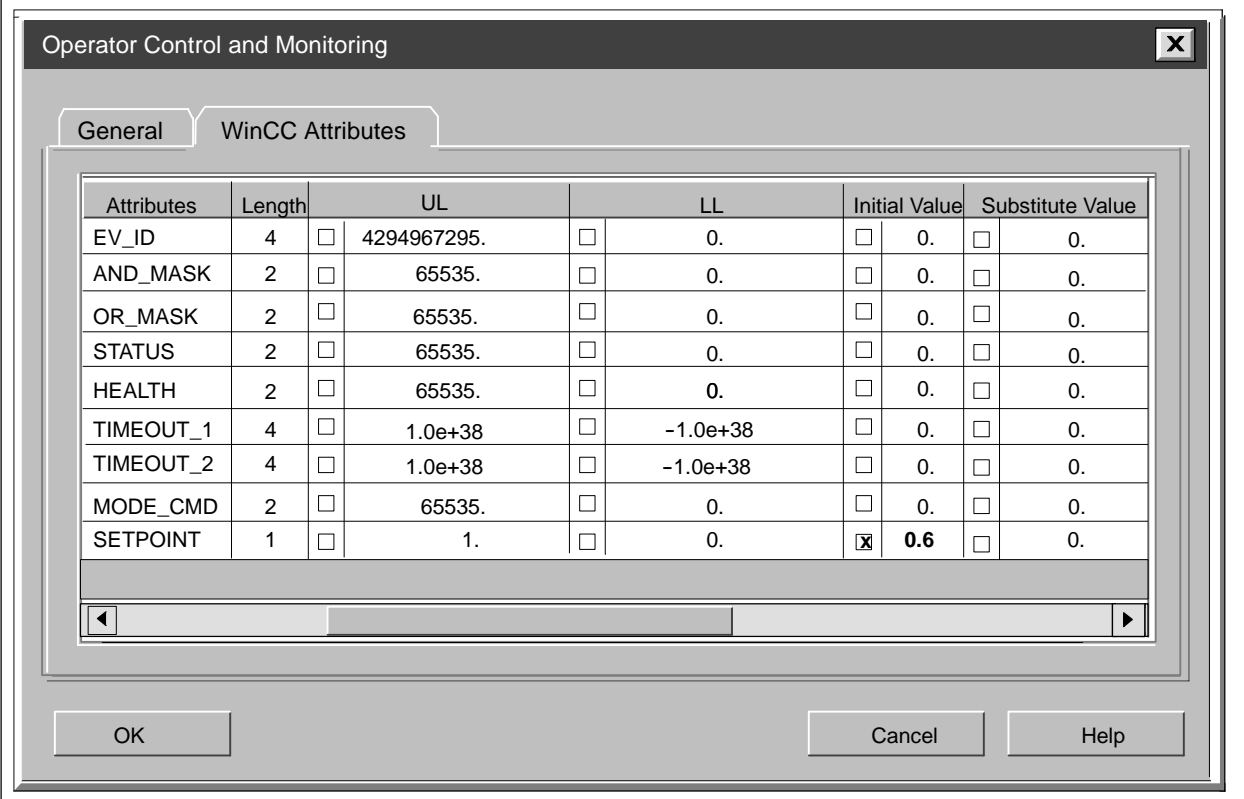

Figure 2-6 Setting Initial Value in the WinCC Attributes Folder
3. Click on the **WinCC Attributes** tab. The WinCC Attributes folder is displayed (Figure 2-6).